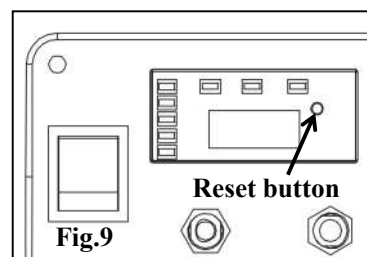

Fig.9
3. Press the reset button (See fig.9).